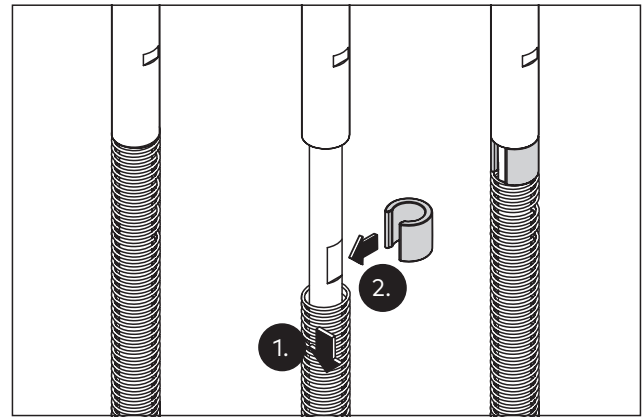

Fig. 41 Mount spacers
1. Adjust the preload of the spring on the upper espagnolette bolt in relation to the door height according to the table (Abb. 41).